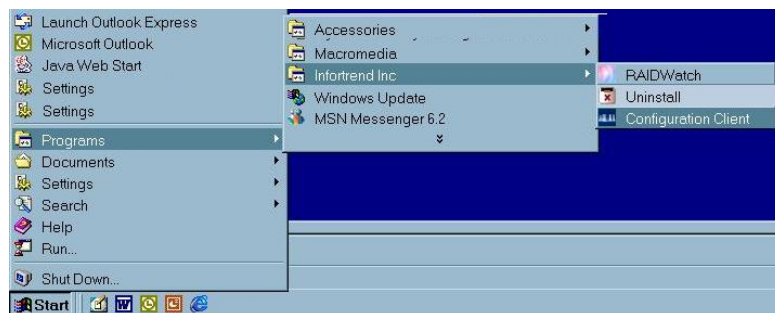

Figure 6-2: Configuration Client Shortcut on Windows Startup Menu
Step 1. From the Startup menu, select Programs → Infortrend Inc. → RAIDWatch Manager. (See **Figure 6-2.**) Double-click the RAIDWatch Manager icon.